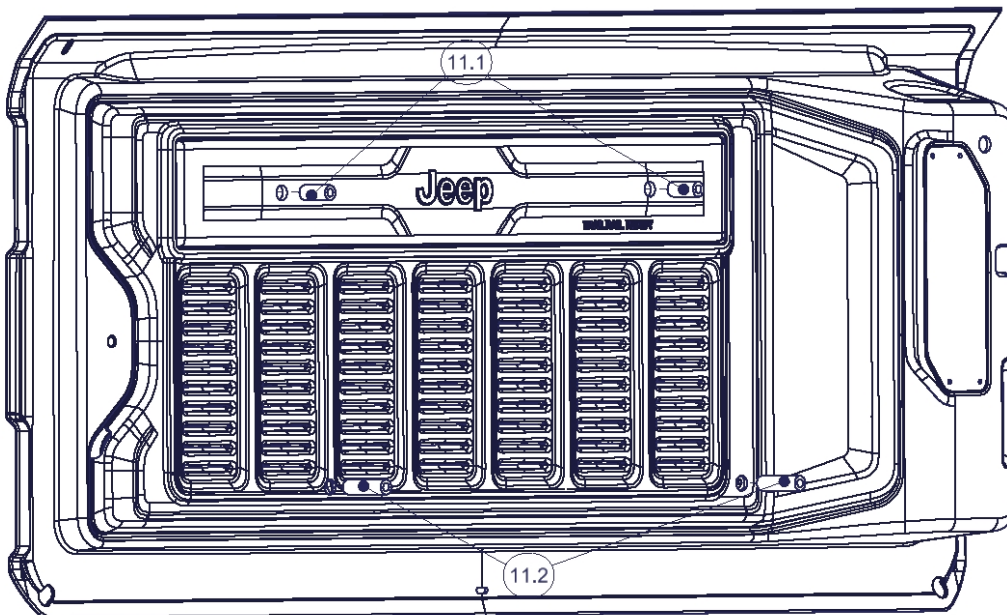

Figure 3
- Place the (2) #11.1 Spacers in the upper holes and the (2) #11.2 Spacers in the lower holes. See Figure 3.